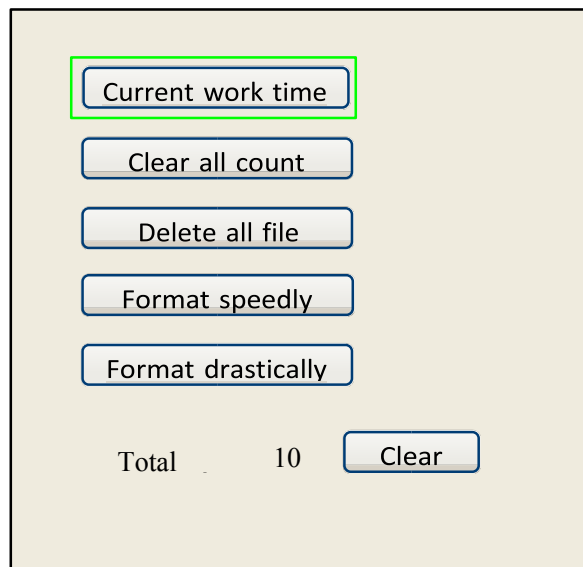
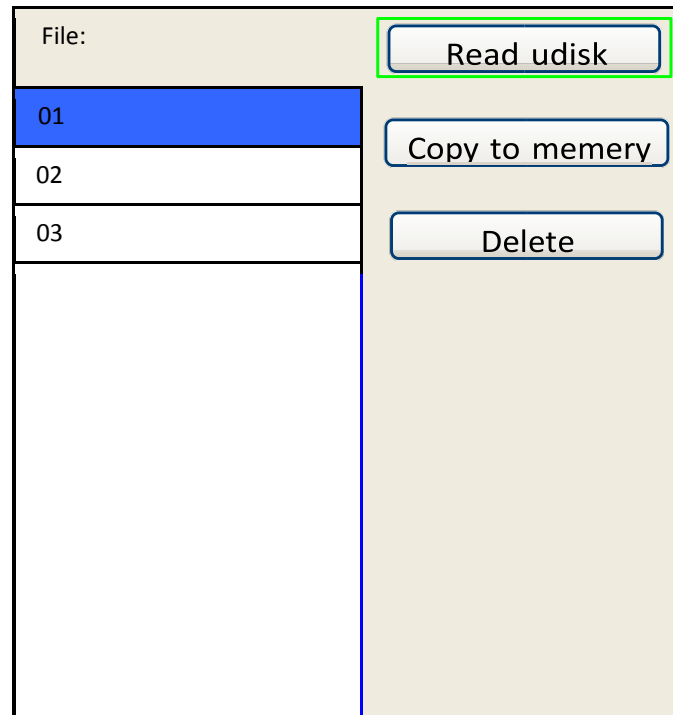

Figure 16
Figure 17
- If the “Other” entry is pressed, the system will show as below in Figure 16
If the “Udisk” entry in Figure 17 is pressed, the system will show as Figure 17, and the operation method is all the same as Figure 16.